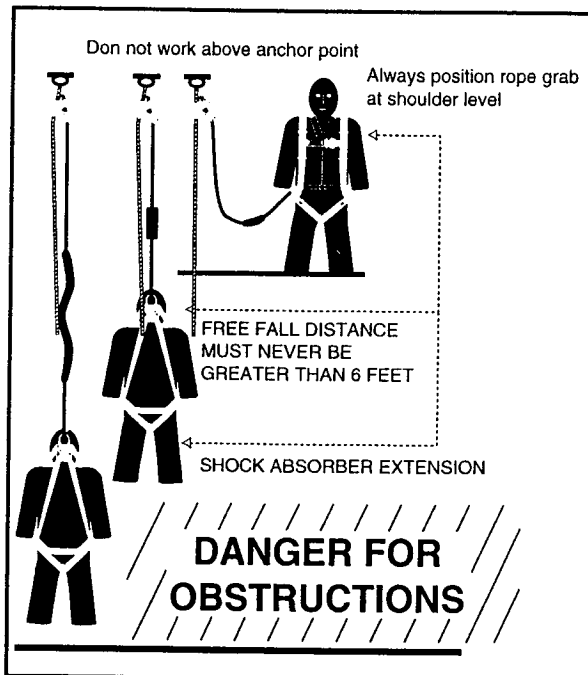

Figure 2
8.1.1 Every anchorage point must be selected with care. The anchorage point location, in combination with the lanyard, should never permit a free fall of more than six (6) feet (see Figure 2). Always check for obstructions below the work area to make sure potential fall path is clear. When selecting an anchorage point, take into consideration that a deceleration device, such as a shock absorber, can elongate up to four (4) feet.